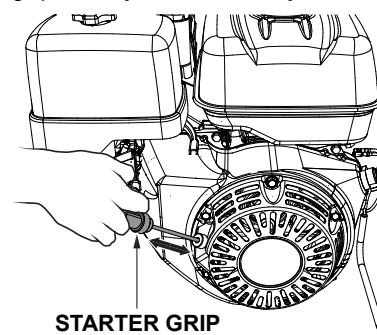

Figure 15. Starter Grip
6. Grasp the starter grip (See Figure 15) and slowly pull it out. The resistance becomes the hardest at a certain position, corresponding to the compression point. Pull the starter grip briskly and smoothly for starting.